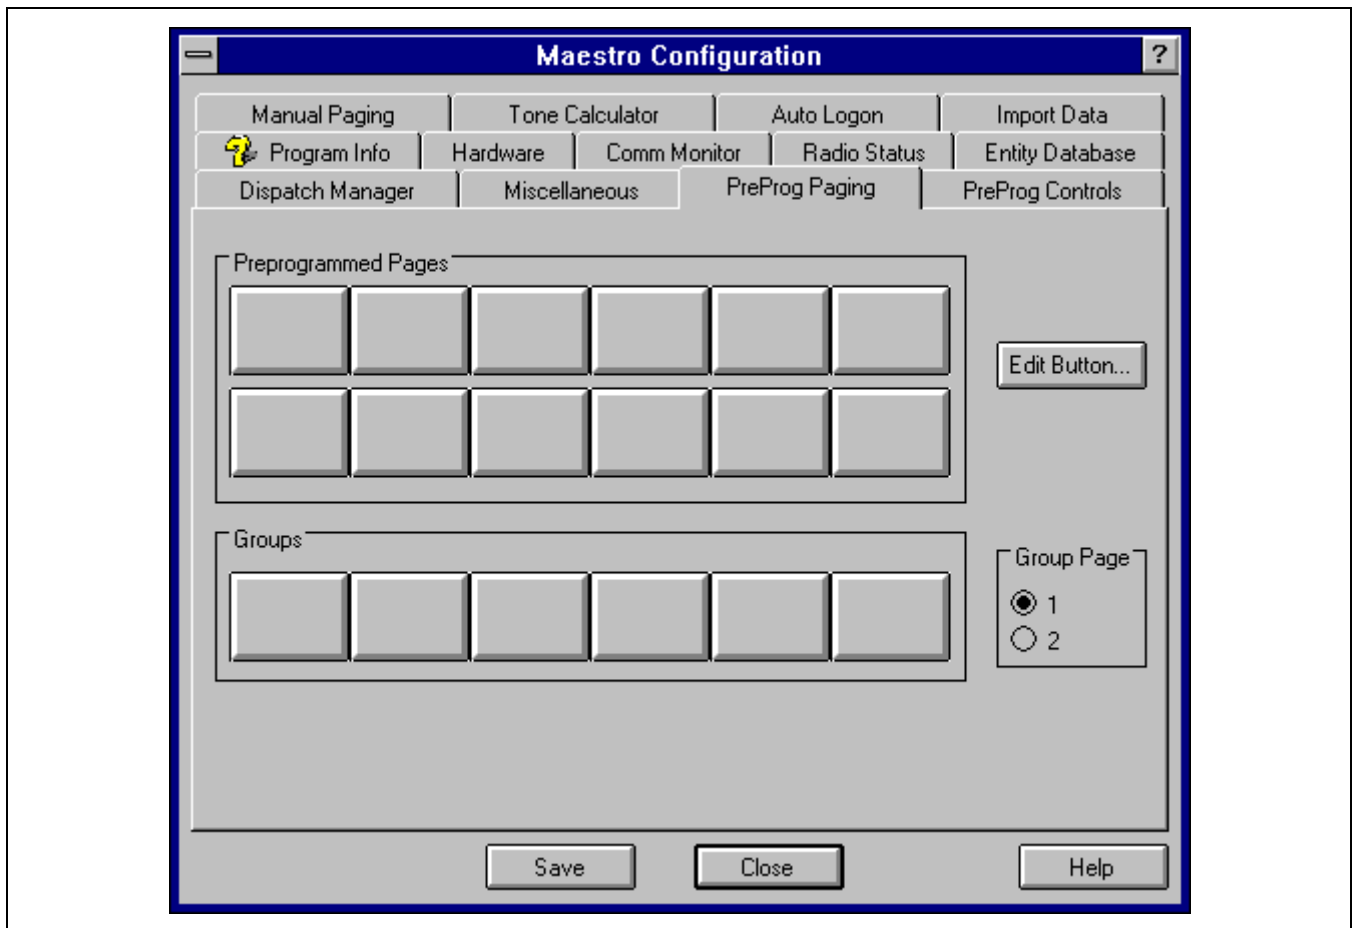

Figure 6-13 — Configuration Editor's Preprogrammed Paging Buttons Dialog Box
1. If necessary, from the PreProg Paging dialog box (see Figure 6-13 or Figure 6-14), click the Group Page option button which corresponds to the desired button group page. Two button group pages are available, each with 72 preprogrammable paging buttons.
2. Near the bottom of the dialog box, click one of the six (6) Groups select buttons which corresponds to the desired button group. Six button groups are available on each button group page.
4. Near the top of the dialog box, click one of the twelve (12) Preprogrammed Pages buttons which corresponds to the desired button for property definition.